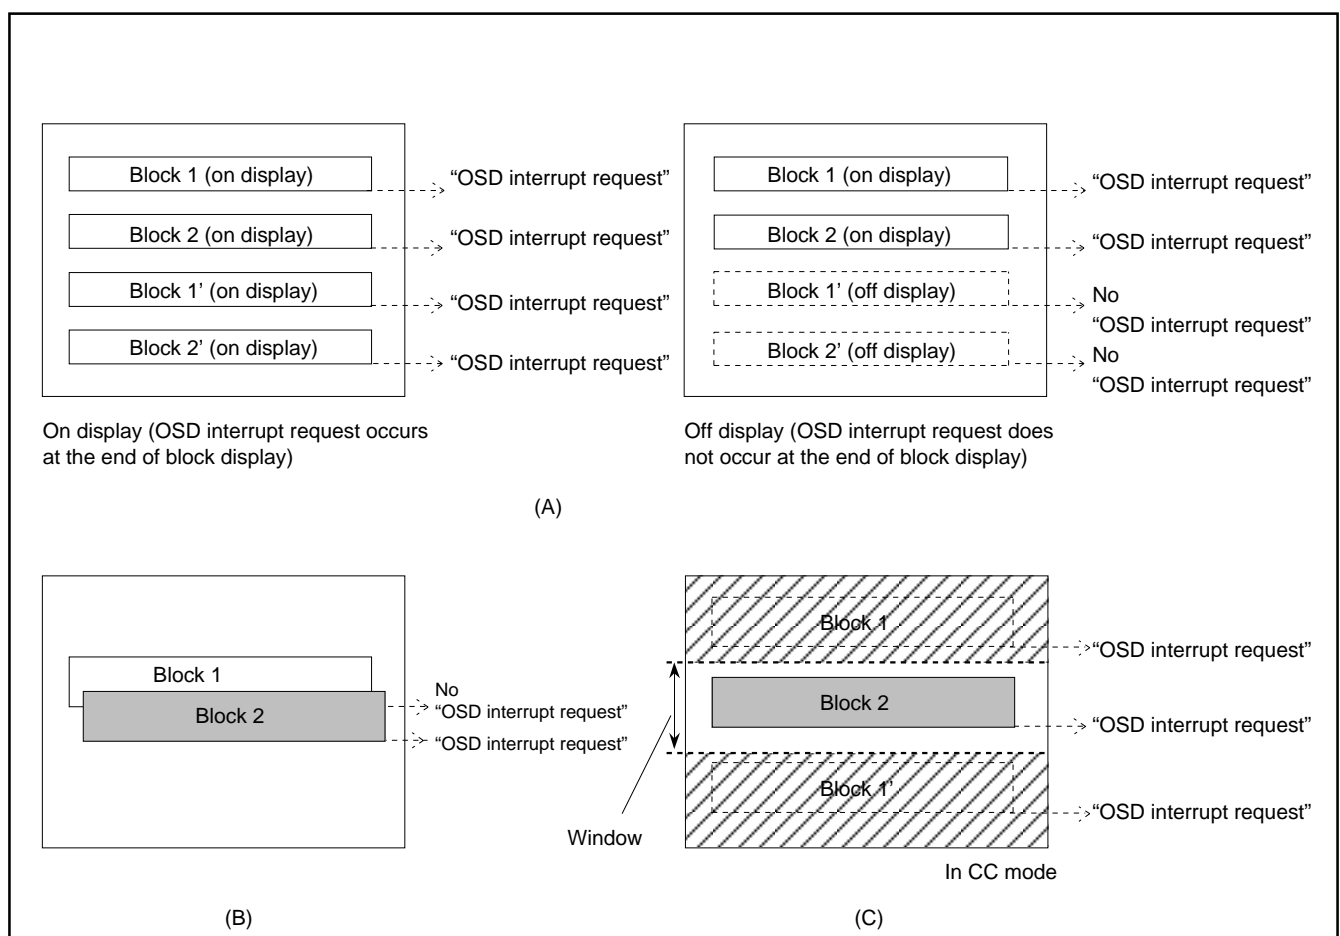

Fig. 8.11.24 Note on Occurrence of OSD Interrupt
**Notes 1:** An OSD interrupt does not occur at the end of display when the block is not displayed. In other words, if a block is set to display off by the display control bit of the block control register (addresses 00D216, 00D316), an OSD interrupt request does not occur (refer to Figure 8.11.24 (A)).
**2:** When another block display appears while one block is displayed, an OSD interrupt request occurs only once at the end of the second block display (refer to Figure 8.11.24 (B)).
**3:** On the screen setting window, an OSD interrupt occurs even at the end of the CC mode block (display off) out of window (refer to Figure 8.11.24 (C)).